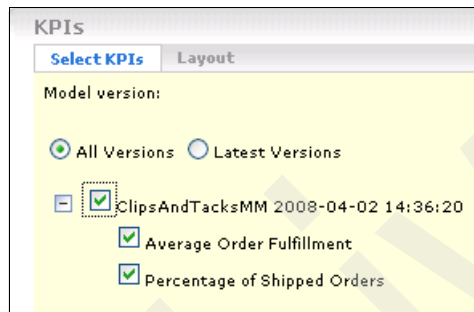

Figure 5-108 Configuring the KPIs view
- b. Click the **Select KPIs** tab (Figure 5-108). Expand **ClipsAndTacksMM** to see the available KPI metrics. Select all of them.